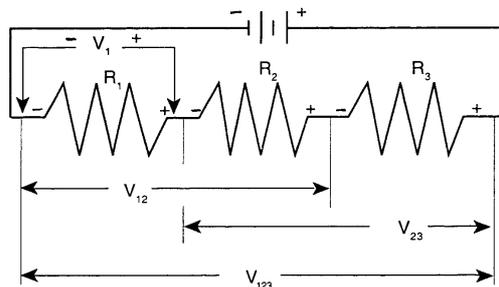

Figure 14.14: Voltage Measurements in Series Circuit
1. Connect the three resistors that you used before into the series circuit shown in Figure 14.14. Connect two wires to the Power Supply, carefully noting which wire is connected to the negative terminal and which is connected to the positive.